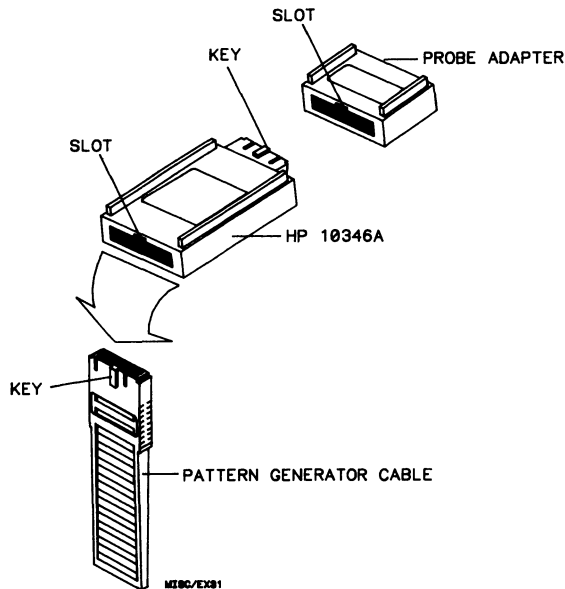

Figure 2. Connecting the HP 10346A Pod to the Cable Connector
2. Connect the HP 10346A pod to the pattern generator by aligning the key on the connector from the pattern generator cable with the slot on the pod connector and pushing them together (see figure 2).
3. If a probe adapter is required, connect the HP 10346A pod to the probe adapter of the pattern generator by aligning the key on the connector of HP 10346A pod with the slot on the probe adapter and pushing them together (see figure 2).